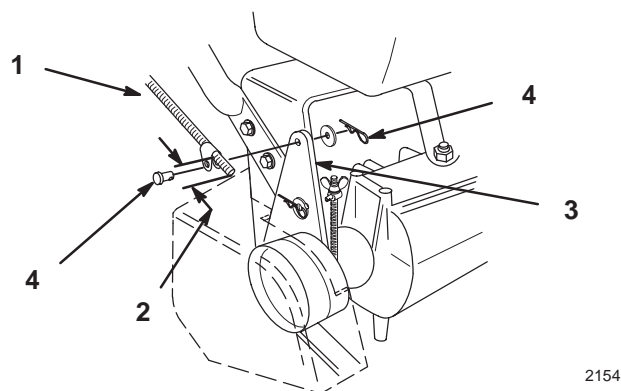
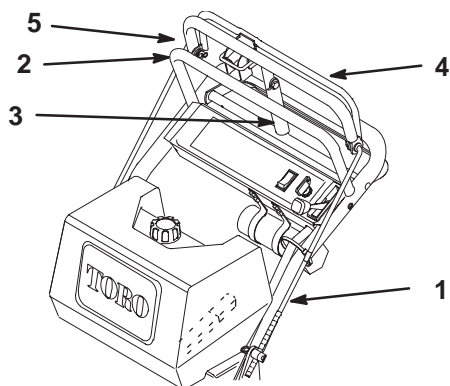

Figure 9
Figure 10
1. Thread a rod fitting onto each control rod approximately 2 in. (51 mm) (Fig. 9) or until upper control bar is approximately perpendicular to the ground (Fig. 10).
2. Mount rod fitting ends to mounting holes in idler brackets (from outside) with clevis pins, washers and hairpin cotters (Fig. 9).
3. Check gap between upper control bar and upper handle when fully engaging wheel belts. Gap should be approximately 1 to 1-1/4 in. (25–32 mm) (Fig. 10).